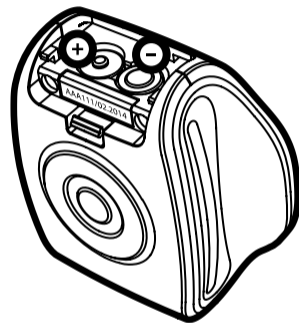

Fig.8. Polarity of power supply elements
- Install new power supply elements following the polarity as it is shown on Fig.8. Put the battery compartment in place.
Device does not switch after replacement of power supply elements	Remove power supply elements, let the device stand for 2 minutes free of them, install power supply elements again following the polarity as it is shown on Fig.8.